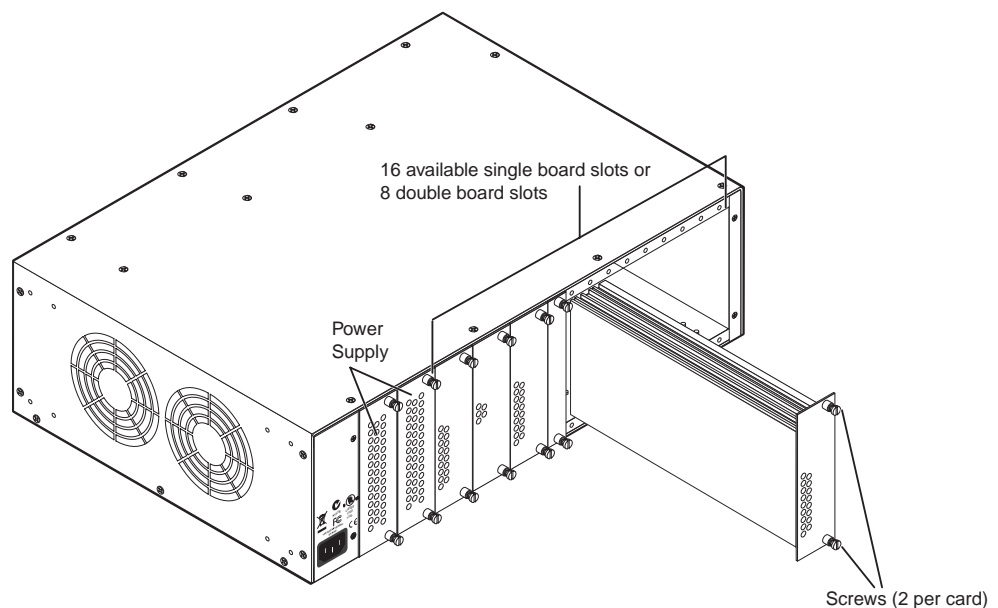

Figure 25. Inserting Boards into the PowerCage 1600 Enclosure
2. Position the board in the slot so that the power and communication ports on the front end of the board are aligned with the matching ports inside of the board cage (see figure 25).